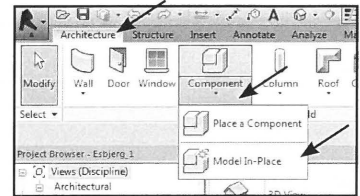

Fig. 04.120. Model In Place.
- Vælg *Architecture - Component - Model In Place* (Fig. 04.120).